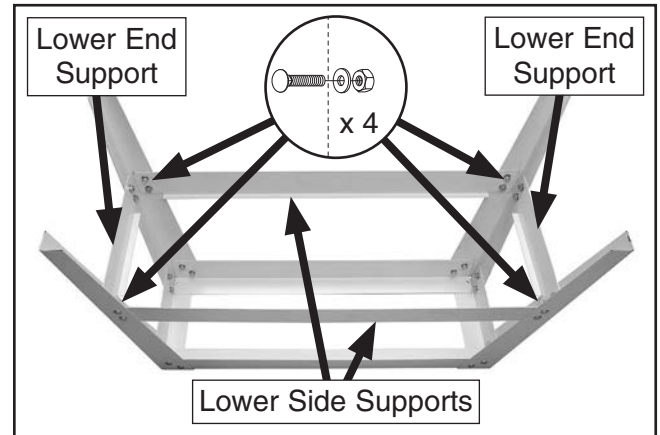

Figure 14. Lower end supports and lower side supports attached.
3. Attach (2) lower end supports and (2) lower side supports to stand assembly made in **Step 2** with (16) M8-1.25 x 12 carriage bolts, (16) 8mm flat washers, and (16) M8-1.25 hex nuts (see **Figure 14**). DO NOT fully tighten fasteners yet.